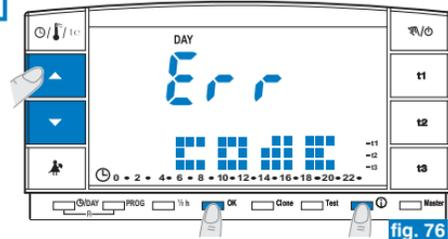

fig. 76
- ⓘ - If you enter the wrong password, the display will show **Err** (fig. 76).